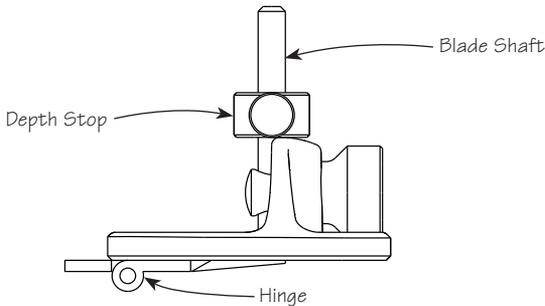

Figure 2: Setting depth stop.
**...** *Tip: When installing hardware, it is best to set the blade depth, not with a measurement, but by using the actual hardware (see Figure 2).*